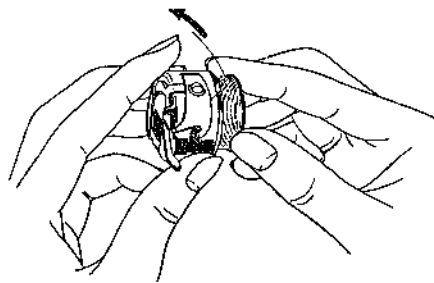

Fig. 1
- 2) Place a bobbin on the bobbin winder spindle, revolve the bobbin until the notch in the bobbin meets the spring on the spindle, and push the bobbin down. Then push the bobbin winding spindle so that the latch fits into the bobbin. (Fig. 1)
Holding the bobbin case in your left hand, turn the open side up and place the threaded bobbin into it (Fig. 1).
Raise the needle bar (A) (Fig. 1) to its highest point by turning the hand wheel with your right hand.